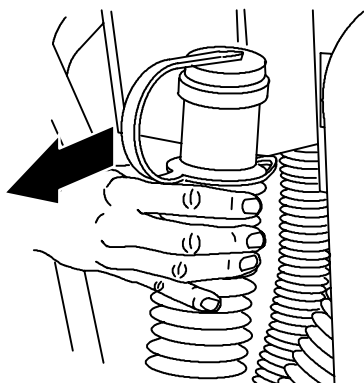

FIG. 43
1. Remove recovery tank drain hose from hose hook (Figure 43).